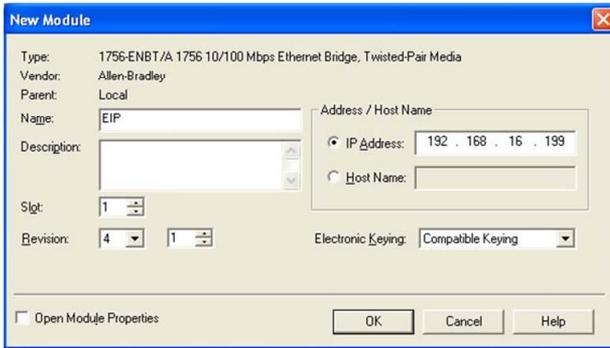

Figure 75: Configuring the New Module
- 6) The “New Module” window will open. Refer to Figure 75.